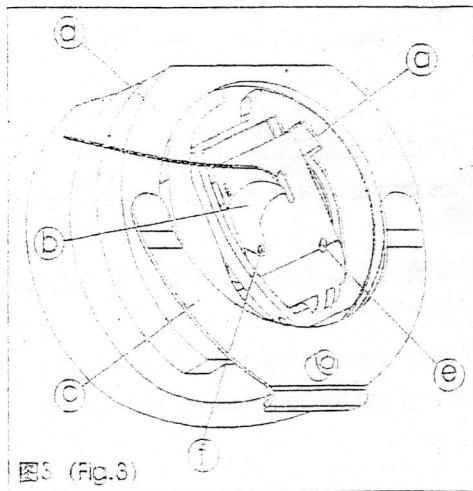
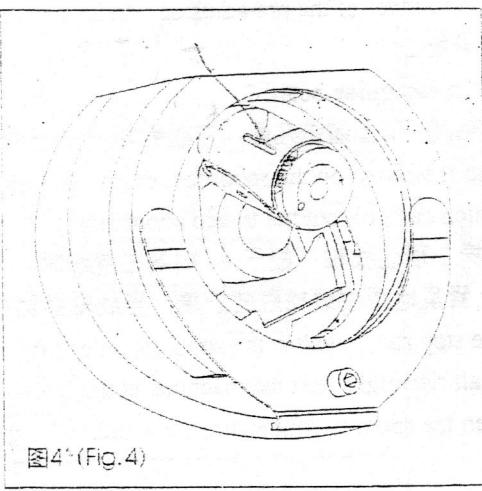

图3 (Fig.3)
图4 (Fig.4)
3.2 线轴更换 (图 3、图 4)
3.2 Spool replacement (see in figure 3 and figure 4)
如图 4;
- (4) Insert the full spool to the outside hub. And when loop line of spool is pulled up, “the rotation direction of spool shall be consistency with that of shuttle head”, as seen in figure 4.
(5) 将线轴的线拉穿过弹簧 b 底下的缺口, 并超过 8cm
3.3 线轴线张力的调整 (图 3)
3.3 Tension adjustment of the thread on spool (seen in figure 3)